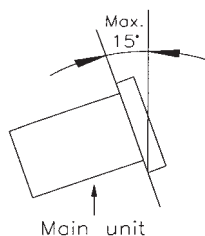

Figure 1
- The player will work normally when the main unit is mounted with the front panel within 15 degrees of the vertical plane. If the unit is tilted excessively, discs may not be loaded or unloaded properly. (Figure 1)